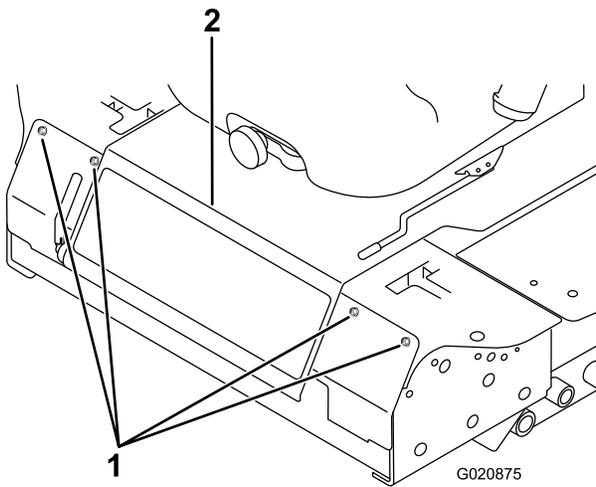

Figure 84
3. Remove the bolts securing the front panel and remove the panel (Figure 84).